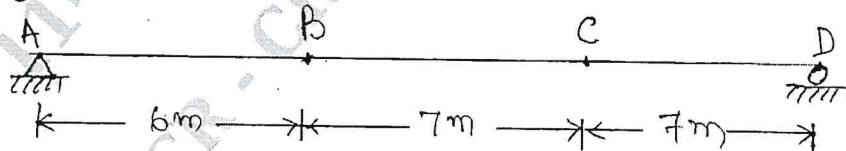

Fig.Q10(a)
- 10 a. For the beam shown in Fig.Q10(a) draw influence lines for